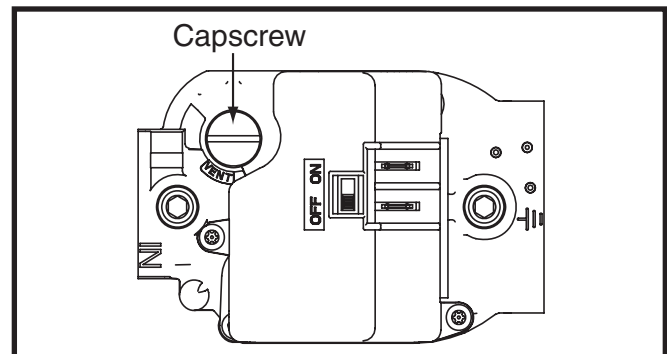

Figure 27. Regulator Capscrew
- b.) Remove the regulator capscrew (Figure 27) from the INLET side of the regulator.